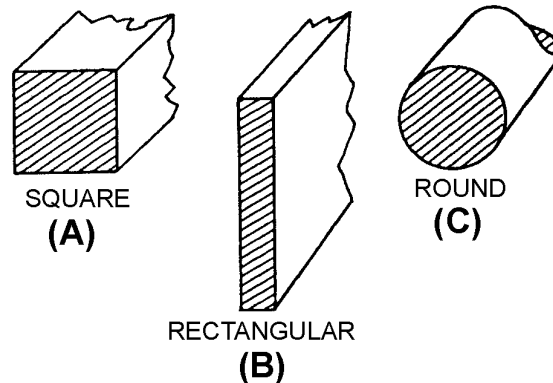
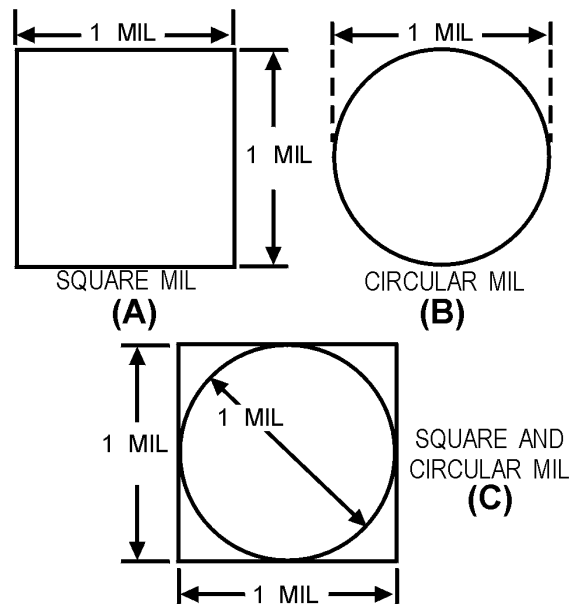

Figure 1-1.—Cross-sectional areas of conductors.
Figure 1-2.—A comparison of circular and square mils.
The square mil is a unit of measurement used to determine the cross-sectional area of a square or rectangular conductor (views A and B of figure 1-1). A square mil is defined as the area of a square, the sides of which are each 1 mil. To obtain the cross-sectional area of a square conductor, multiply the dimension of any side of the square by itself. For example, assume that you have a square conductor with a side dimension of 3 mils. Multiply 3 mils by itself (3 mils \times 3 mils). This gives you a cross-sectional area of 9 square mils.
The circular mil is the standard unit of measurement of a round wire cross-sectional area (view C of figure 1-1). This unit of measurement is found in American and English wire tables. The diameter of a round conductor (wire) used to conduct electricity may be only a fraction of an inch. Therefore, it is convenient to express this diameter in mils to avoid using decimals. For example, the diameter of a wire is expressed as 25 mils instead of 0.025 inch. A circular mil is the area of a circle having a diameter of 1 mil, as shown in view B of figure 1-2. The area in circular mils of a round conductor is obtained by squaring the diameter, measured in mils. Thus, a wire having a diameter of 25 mils has an area of 25^2 , or 625 circular mils. To determine the number of square mils in the same conductor, apply the conventional formula for determining the area of a circle ($A = \pi r^2$). In this formula, A (area) is the unknown and is equal to the cross-sectional area in square mils, π is the constant 3.14, and r is the radius of the circle, or half the diameter (D). Through substitution, $A = 3.14$, and $(12.5)^2$; therefore, $3.14 \times 156.25 = 490.625$
If a wire has a cross-sectional diameter of 1 mil, by definition, the circular mil area (CMA) is $A = D^2$, or $A = 1^2$, or $A = 1$ circular mil. To determine the square mil area of the same wire, apply the formula $A = \pi r^2$; therefore, $A = 3.14 \times (.5)^2$ (.5 representing half the diameter). When $A = 3.14 \times .25$, $A = .7854$ square mil. From this, it can be concluded that 1 circular mil is equal to .7854 square mil. This becomes important when square (view A of figure 1-2) and round (view B) conductors are compared as in view C of figure 1-2.